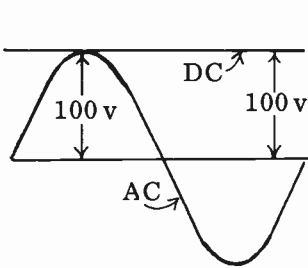
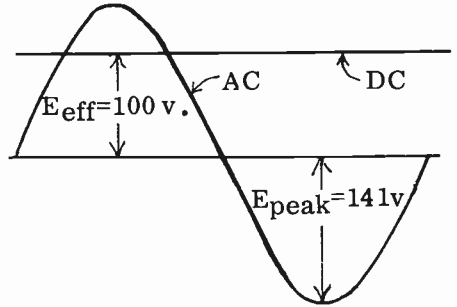

FIG. 4-10.
FIG. 4-11.
**EFFECTIVE VALUE OF AN AC WAVE.** Let us consider a DC voltage of 100 volts, and an AC wave whose peak is 100 volts (see Fig. 4-10). We can see that the DC voltage is really at its peak at all times. The AC wave reaches its peak value only for a fraction of each cycle. If we connect a lamp, first to the DC voltage, then to the AC, the lamp will light up more brilliantly when connected to the DC. This is because the DC voltage remains at 100 volts continuously, whereas the AC voltage reaches 100 volts only at two points during each cycle. In order for the lamp to light with equal brilliance on AC as well as on DC, we find that we must raise the AC voltage to 141 peak volts. Effectively then, 141 peak volts of AC will light up a lamp as brilliantly as does 100 volts of DC. The EFFECTIVE value of the 141 volt peak AC wave is therefore 100 volts. This is illustrated in Fig. 4-11. Another term for effective value is RMS value. RMS stands for ROOT MEAN SQUARE.